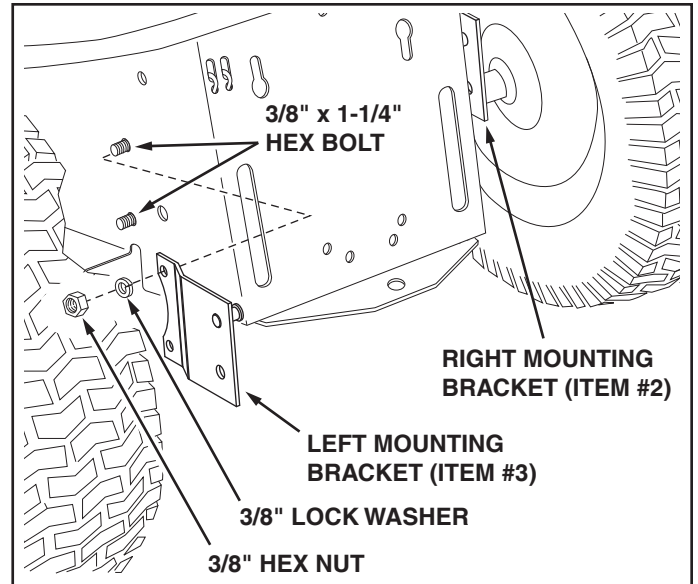

FIGURE 2
2. Install two 3/8" x 1-1/4" hex bolts in each side of the tractor as shown. Attach the right and left Mounting Brackets (items 2 and 3 in carton contents) to the bolts using two 3/8" lock washers and 3/8" hex nuts. The weld pins must face inward. See figure 2.